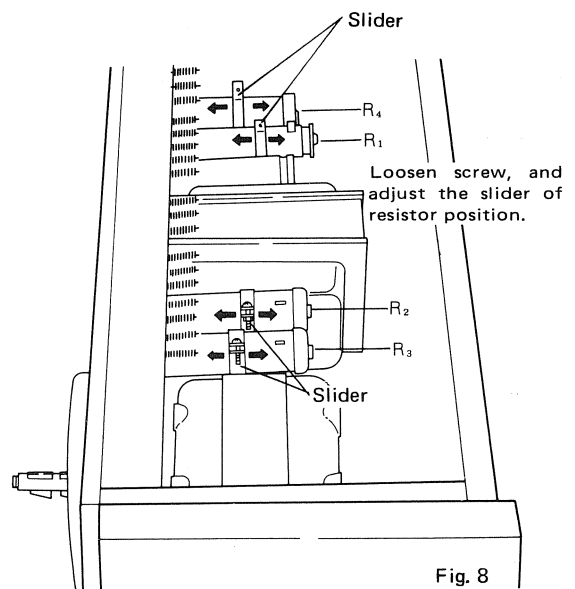

Fig. 8
3. Adjust the slider of resistance R2 (500Ω) so that the measured tension is 93 ~ 110g (280 ~ 330g·cm), see Fig. 8.
4. Set the REEL size selector button to the 7 inch reel position, and measure the back tension as detailed in the preceding (2).